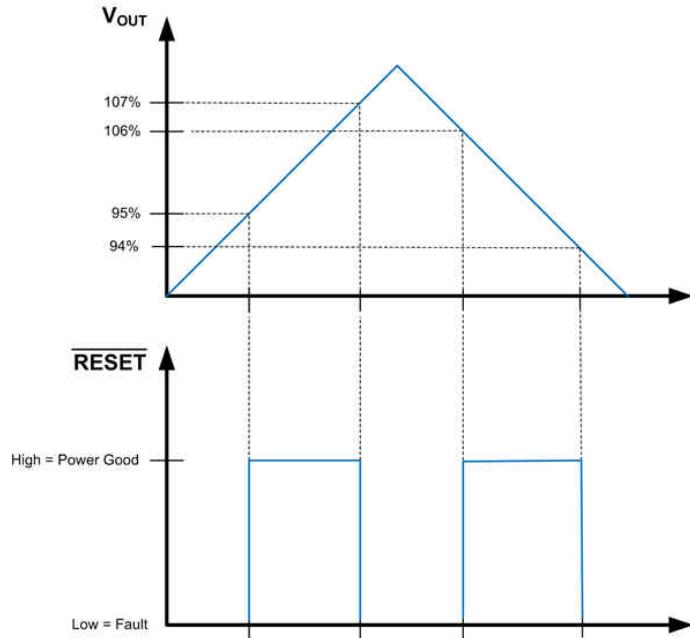
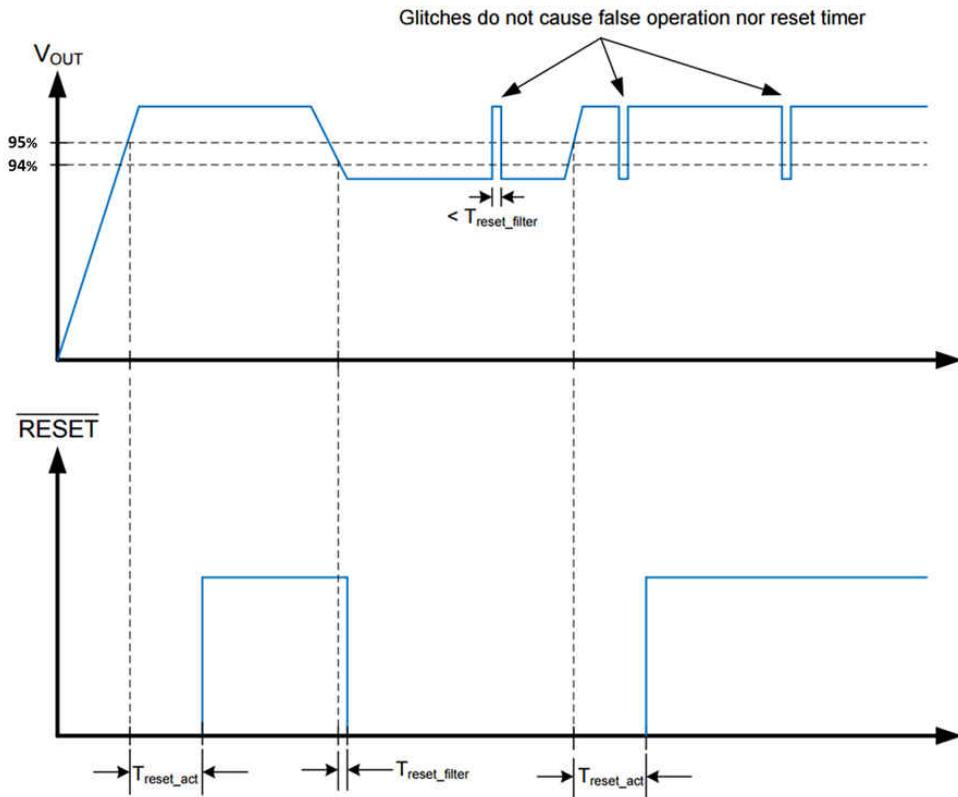

Figure 8-2. Static RESET Operation
Figure 8-3. RESET Timing Behavior
The $\overline{\text{RESET}}$ function, built into the LM53625/35-Q1, has special features not found in the ordinary Power-Good function. A glitch filter prevents false flag operation for short excursions in the output voltage, such as during line and load transients. Furthermore, there is a delay between the point at which the output voltage is within specified limits and the flag asserts Power Good. Because the $\overline{\text{RESET}}$ comparator and the regulation loop share the same reference, the thresholds track with the output voltage. This allows the LM53625/35-Q1 to be specified with a 96.5% maximum threshold, while at the same time specifying a 94 % worst case threshold with respect to the actual output voltage for that device. This allows tighter tolerance than is possible with an external supervisor device. The net result is a more accurate Power-Good function while expanding the system allowance for transients, and so forth. $\overline{\text{RESET}}$ operation can best be understood by reference to Figure 8-2 and Figure 8-3. The values for the various filter and delay times can be found in Section 7.7. Output voltage excursions lasting less than $T_{\overline{\text{RESET}}-\text{filter}}$ do not trip $\overline{\text{RESET}}$. Once the output voltage is within the prescribed limits, a delay of $T_{\overline{\text{RESET}}-\text{act}}$ is imposed before $\overline{\text{RESET}}$ goes high.
- A delay has been added for release of reset. See Figure 8-2 and Figure 8-3 for more detail.